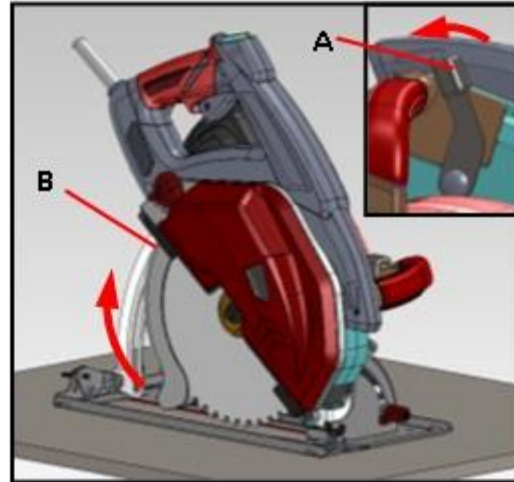

Fig.6
1. Line up the saw sight line with your cutting line. Tilt the saw forward, firmly fixing the guide plate on the workpiece. The blade should be just above the the cutting line, but not touching the workpiece. Raise the lower blade guard (B) using the guard lever (A). **Fig. 6.**
2. Start the saw and allow the blade to reach maximum speed before beginning your cut. Use the front of the guide palte as a hinge and slowly lower the blade into the workpiece and release the guard lever (A).